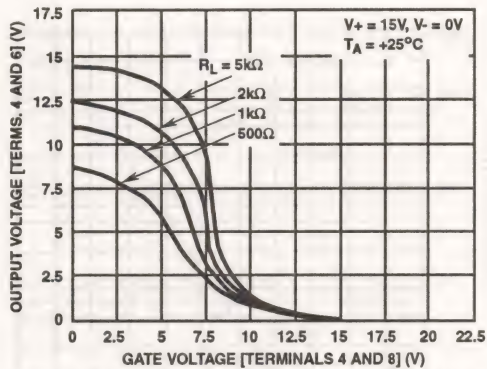
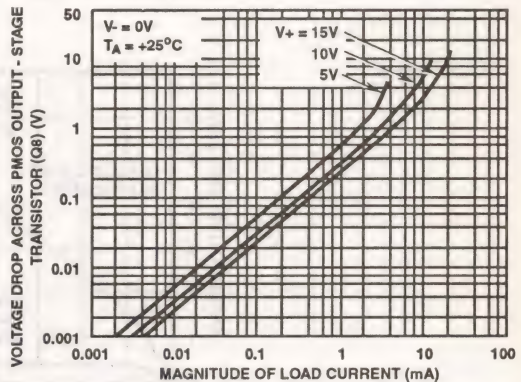

FIGURE 3. VOLTAGE TRANSFER CHARACTERISTICS OF COS/MOS OUTPUT STAGE
FIGURE 6. VOLTAGE ACROSS PMOS OUTPUT TRANSISTOR (Q8) vs LOAD CURRENT
**Output Stage** - The output stage consists of a drain-loaded inverting amplifier using COS/MOS transistors operating in the Class A mode. When operating into very high resistance loads, the output can be swung within millivolts of either supply rail. Because the output stage is a drain-loaded amplifier, its gain is dependent upon the load impedance. The transfer characteristics of the output stage for a load returned to the negative supply rail are shown in Figure 3. Typical op-amp loads are readily driven by the output stage. Because large-signal excursions are non-linear, requiring feedback for good waveform reproduction, transient delays may be encountered. As a voltage follower, the amplifier can achieve 0.01% accuracy levels, including the negative supply rail.
Since the output stage is operating as a Class A amplifier, the supply current will remain constant under dynamic operating conditions as long as the transistors are operated in the linear portion of their voltage-transfer characteristics (see Figure 3). If either Q8 or Q12 are swung out of their linear regions toward cutoff (a non-linear region), there will be
Let it now be assumed that a load-resistance of nominal value (e.g.,  $2k\Omega$ ) is connected between Terminal 6 and ground in the circuit of Figure 12(B). Let it further be assumed again that the input-terminal bias (Terminals 2 and 3) is such that the output terminal (No. 6) voltage is at  $V+/2$ . Since PMOS transistor Q8 must now supply quiescent current to both  $R_L$  and transistor Q12, it should be apparent that under these conditions the supply-current must increase as an inverse function of the  $R_L$  magnitude. Figure 6 shows the voltage-drop across PMOS transistor Q8 as a function of load current at several supply voltages. Figure 3 shows the voltage transfer characteristics of the output stage for several values of load resistance.